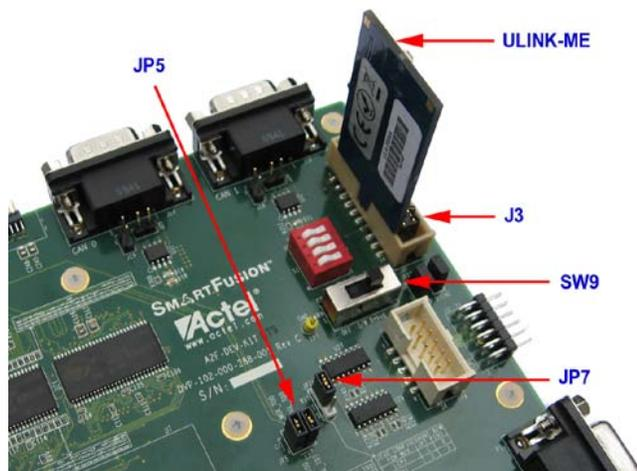

Figure 4: DEV-KIT Jumpers Settings for ULINK operation.
A2F-DEV-KIT: the Big Green Board: See Figure 4.
1. Connect the ULINK to J3, the standard JTAG adapter as shown in Figure 4.
5. JP5 both jumpers to C1 – Single Prog. See Figure 4 for a close-up of these jumpers.